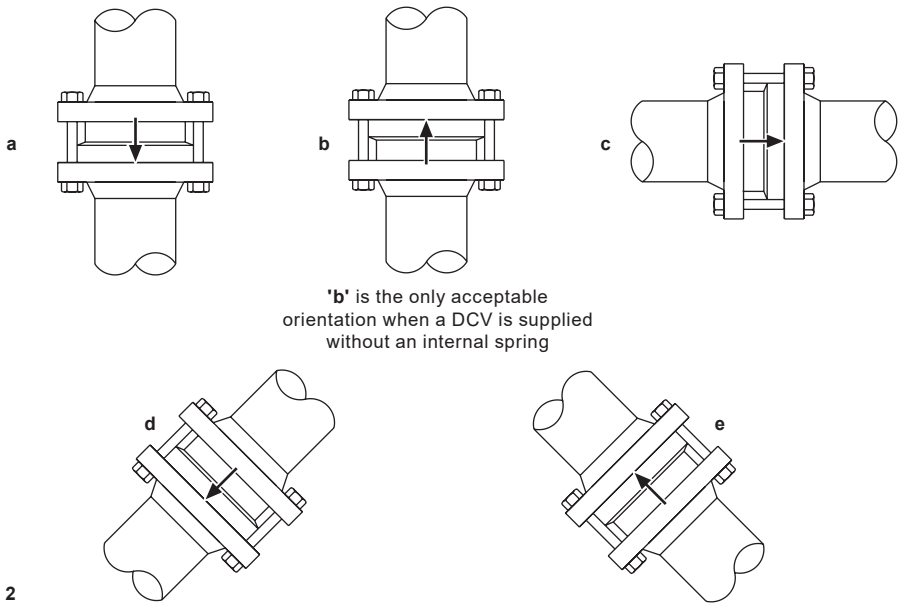

Fig. 2
- 3.5** Disc check valves simply fit between two pipe flanges (see Fig. 2). Standard gaskets are used either side of the valve together with longer bolts or studs. Note: flanges, bolts (or studs), nuts and joint gaskets to be provided by the installer. Normal sensible flange bolting practice should be followed eg. torque tightening the bolts in opposite sequence.